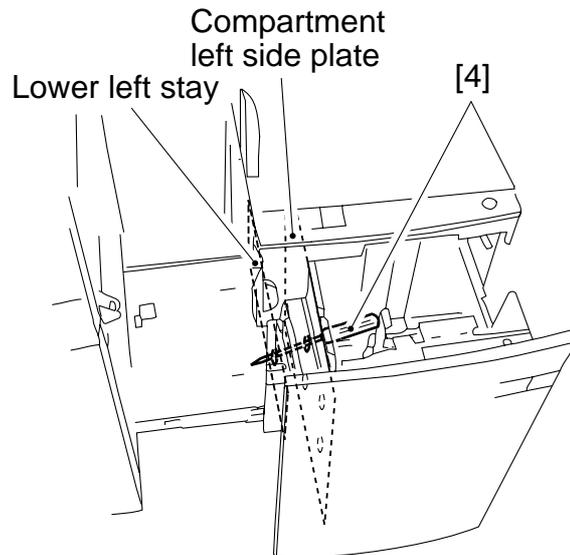

Figure 8-312
- 3) As shown in Figure 8-312, match the hole in the deck lower left stay and the hole in the compartment, and insert a screwdriver [4] from inside the compartment to hold it in place.